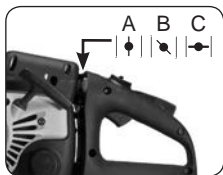
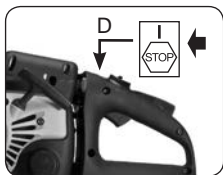

Fig. 9A
Fig. 9B
- Slide red STOP switch (D) up for starting (Fig. 9B). The choke has 3 positions: RUN |♦| (A), HALF |◀| (B) and CHOKE |▶| (C) (Fig. 9A).